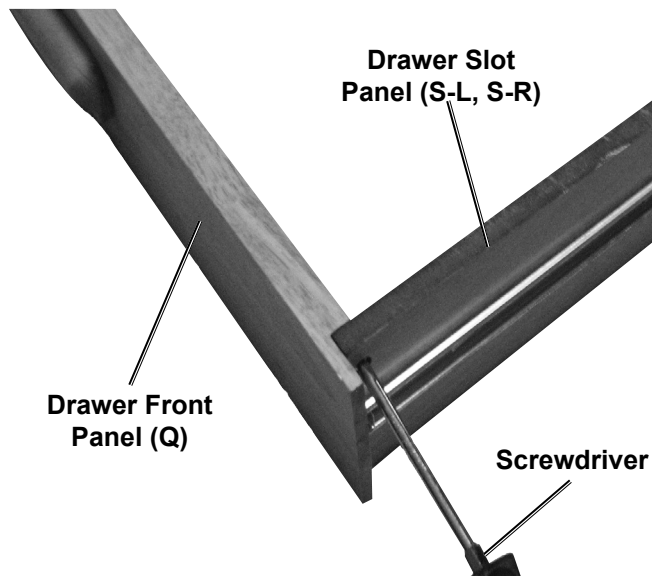

Figure 14
18. Fasten the Drawer Panel (Q) and the Drawer Slot Panel (S-L, S-R) to the Drawer Front Panel. See Figure 14, below.